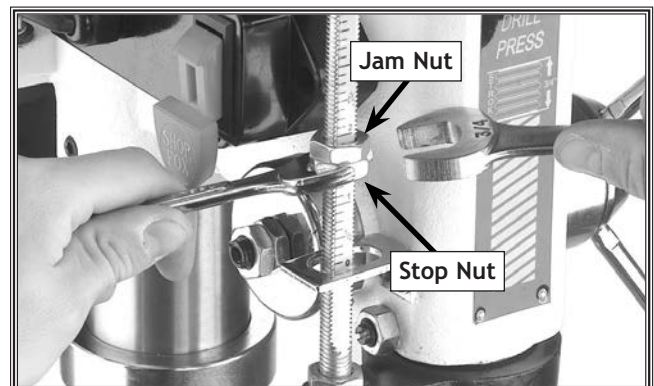

Figure 42. Actual stop depth being measured.
3. Loosen the jam nut on the depth stop rod (see **Figure 42**).
4. Turn the stop nut to the desired depth as indicated by the depth stop scale (see **Figure 42**).